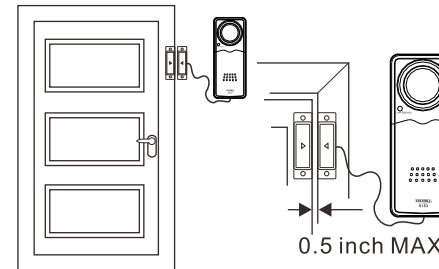

Fig. 3
3. Attach the magnetic sensor with the wire connection to the door frame so that it will not be more than 0.5 inch from the door. Mount the magnet portion of the sensor to door as shown in Fig. 3.